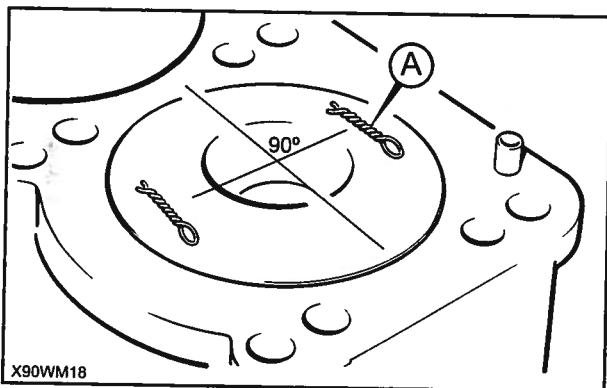

Figure 2.13.1 Checking Cylinder Head Clearance with Wire
5. Refer to 'Figure 2.13.1' and using a very small amount of high melting point grease place the two pieces of wire (A) onto the piston crown (B) at either side of the gudgeon pin axis and 90° to the centre line.